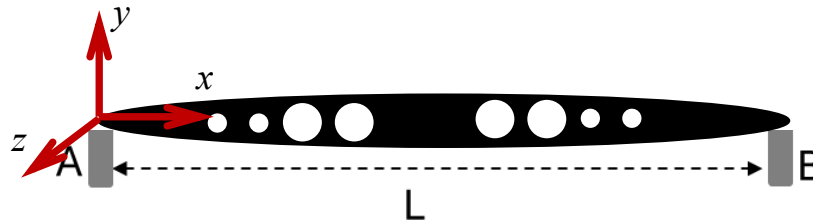

Figure 1. Sketch of a lightweight beam (frontal view)
**DESIGN REQUIREMENTS** – You are tasked to design a lightweight horizontal beam (see sketch in Fig. 1).